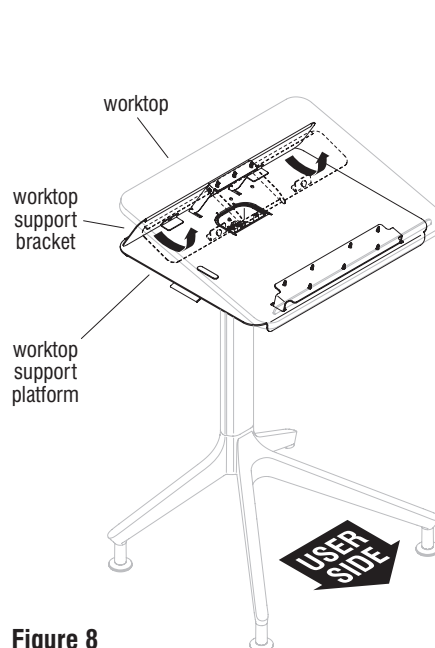

Figure 8
4. Carefully turn the lectern to the upright position on the floor (Figure 8).
5. Continue with cable actuator installation from at the back, non-user side of the lectern. While facing the back, lift the worktop up to disengage the worktop support bracket from the worktop support platform, then flip the worktop support bracket up against the underside of the worktop. Continue to hold it up to gain access to the top of the mounting head (Figure 8).